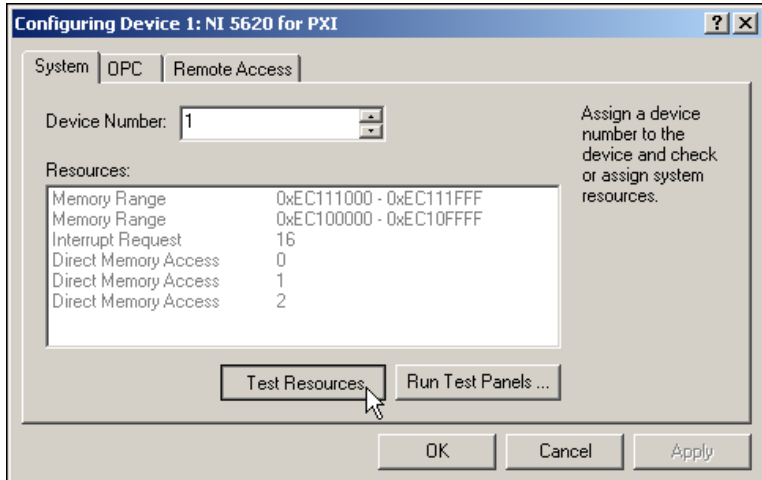

Figure 1-14. Select Test Resources in the NI 5620 Configuring Device Window
9. The Configuring Device dialog appears as shown in Figure 1-14. Click **Test Resources** to self-test the NI 5620 IF digitizer hardware module.